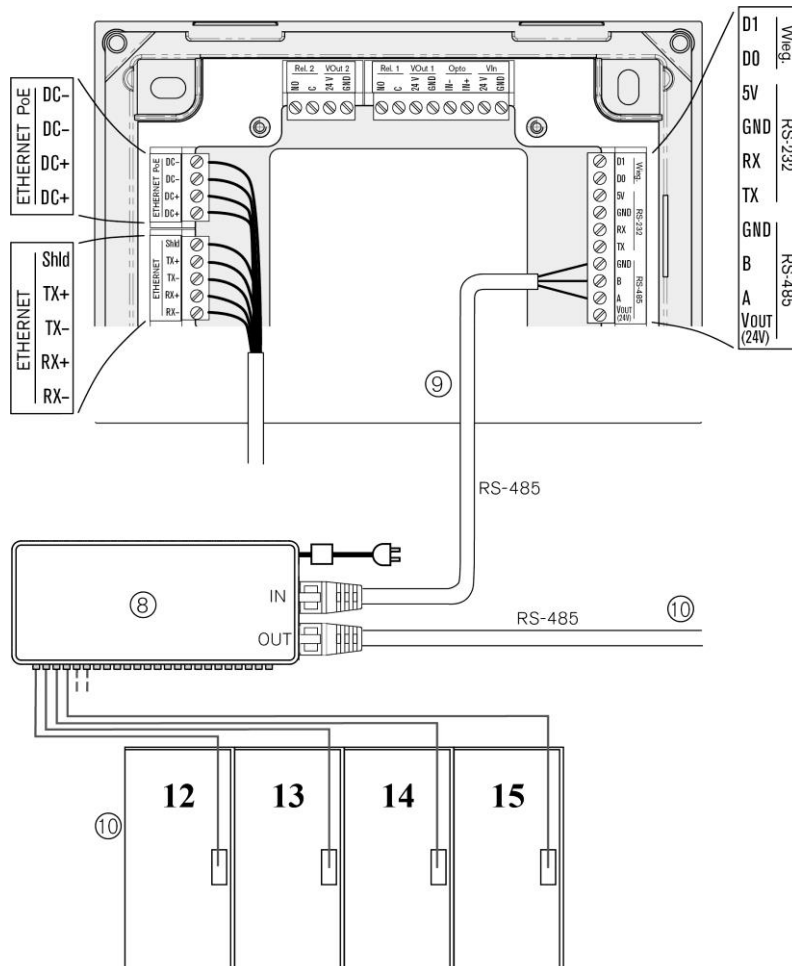

Fig. 4.4 – Connection of the sub controller GAT SMART.Controller S 7020 and GAT NET.Controller S 7020
- ▶ Connect the RS-485 cable (min. CAT. 5) (9) to the RJ45 socket on the sub controller (8) labelled "RS 485 IN".
- ▶ Connect the other end of the RS-485 cable to the "RS-485" screw terminals on the GT7 terminal (see Fig. 4.4).